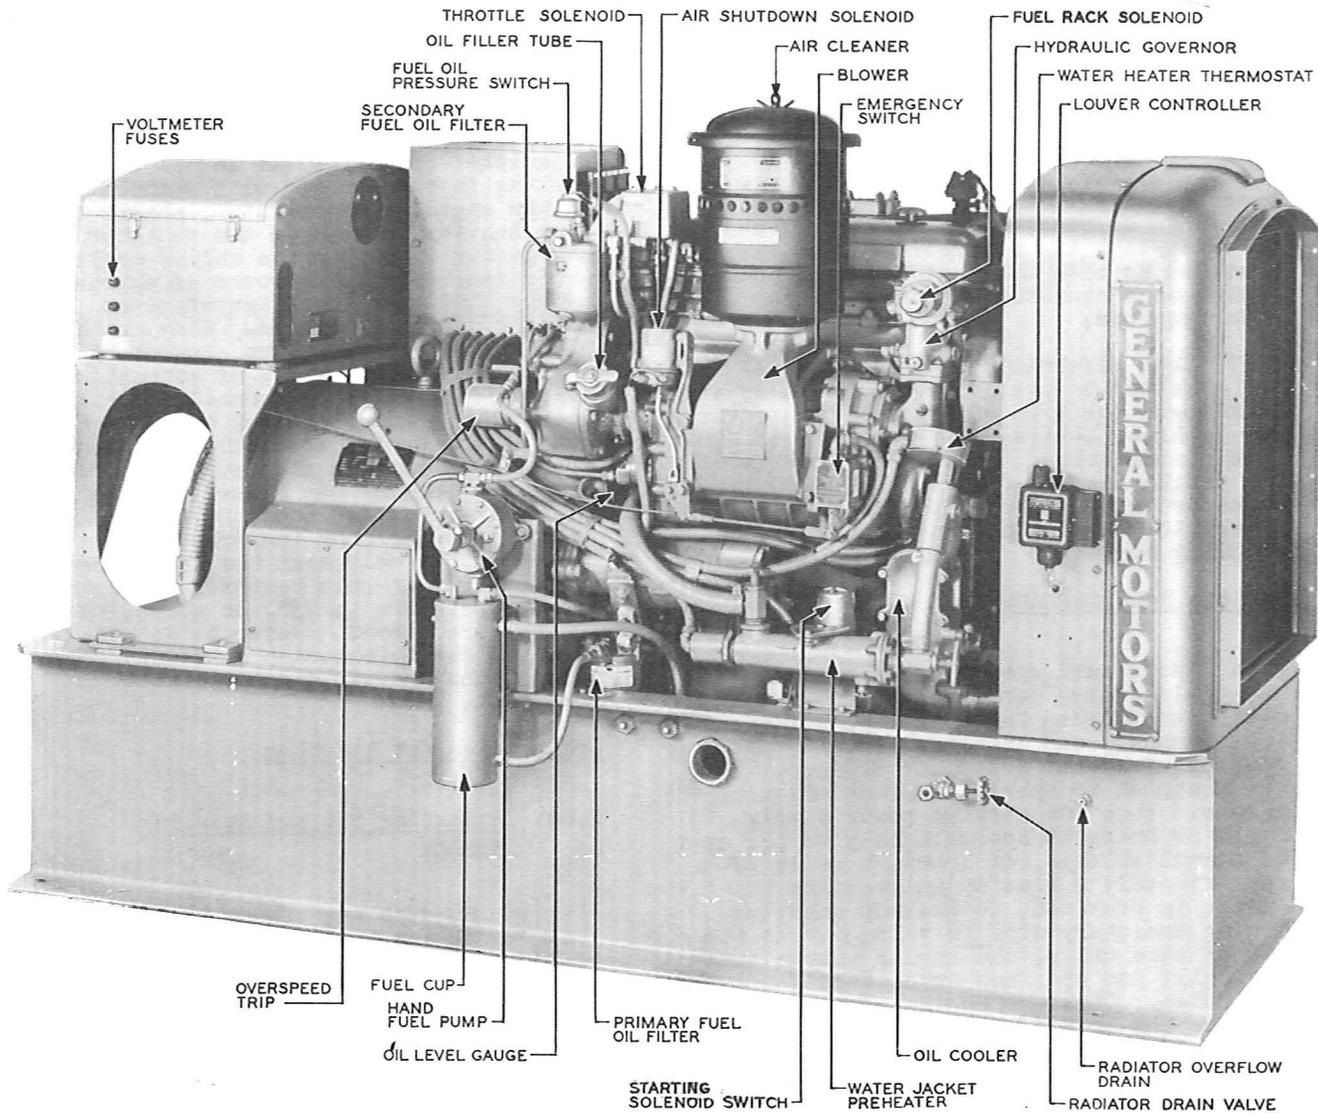
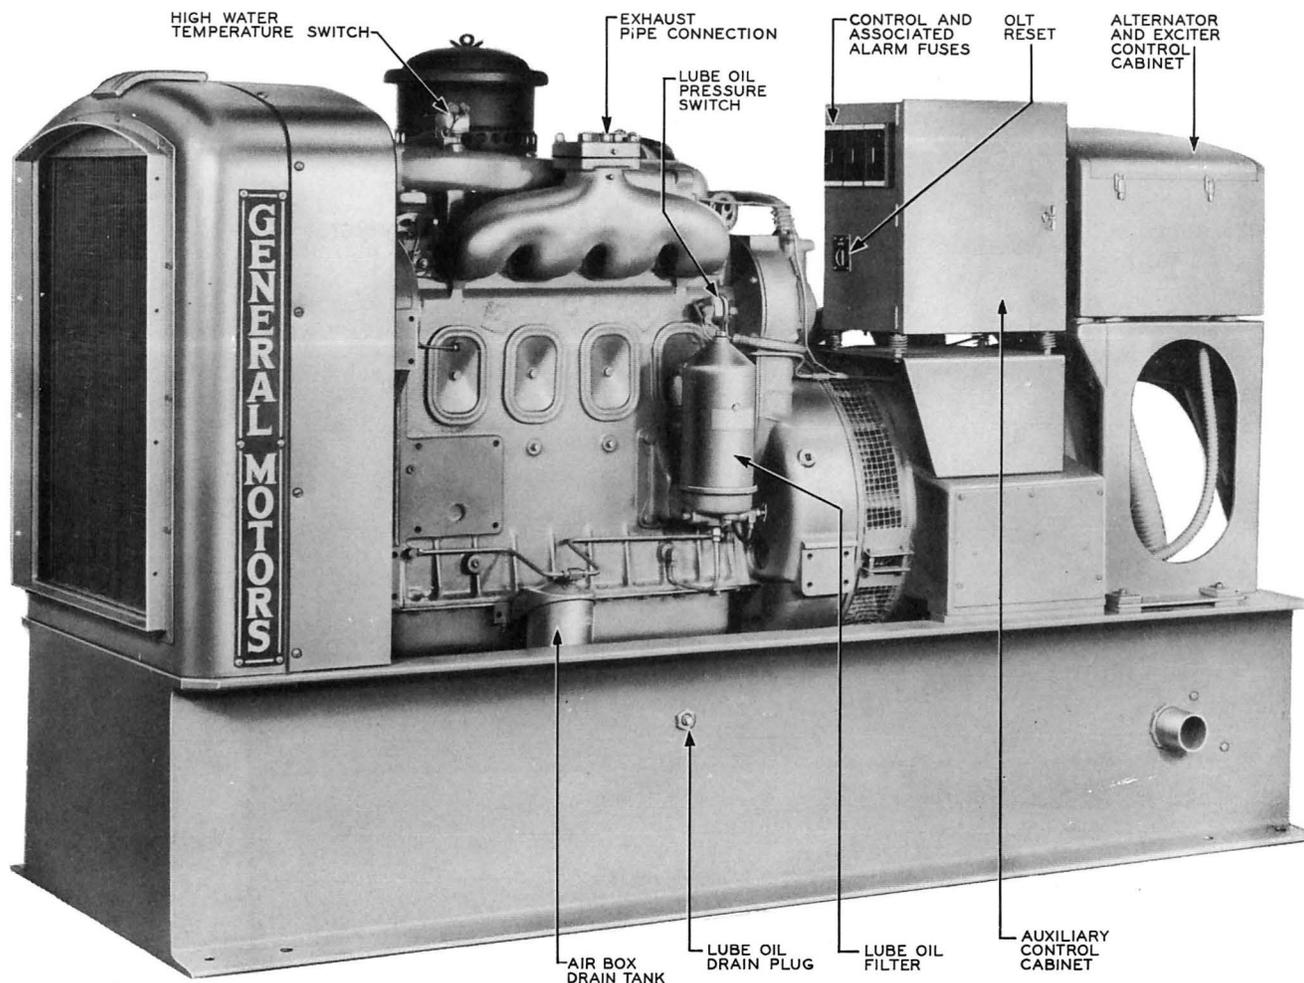
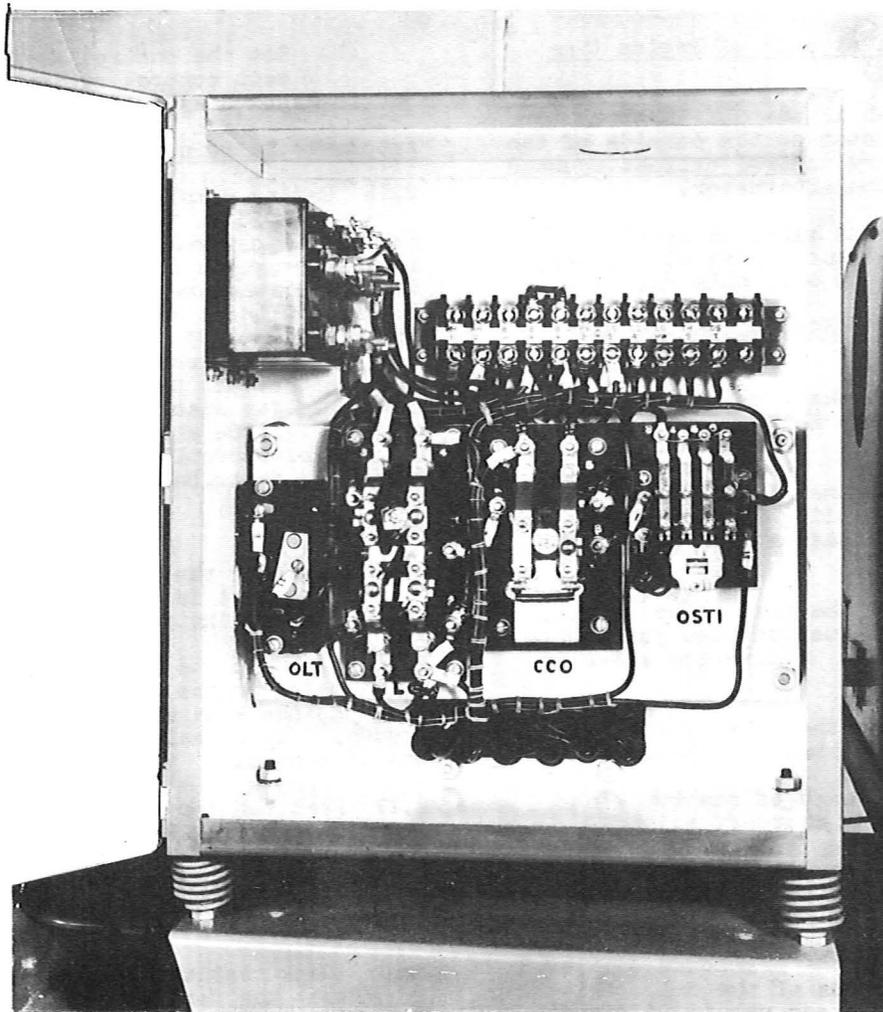

Fig. 1 - Engine-Alternator Set - 40 KW Unit - Blower Side
Fig. 3 - Engine-Alternator Set - 40 KW Unit - Exhaust Side
Fig. 4 - Auxiliary Control Cabinet on Engine Set - Interior View
- (c) Operate the hand fuel pump (Fig.1) until the fuel cup is full.
- (a) Check the oil level in the crank-case by means of the oil level gauge, (see Fig. 1) which is located on the blower side of the set, and add oil if required to bring it up to the FULL mark on the gauge.
(b) On Exhaust Side of Engine (See Fig. 3):
(c) On Blower Side of Engine (See Fig. 1):
3. Open the fuel valve in the fuel suction line just above the floor. (Valve not shown in Fig. 1.)
2.17 Feel the top of the lubricating oil filter (see Fig. 3) occasionally to see that it is warm. If cold, it indicates the filter is clogged or the lubricating oil filter valve, if furnished, is closed. (See 2.12(b)2). Correct as necessary.
2.20 The air box is provided with drains-piped to a container located near the subbase on the exhaust side of the set. (See Fig. 3). This container has a drain valve at the bottom which should be opened at each visit to the office. Its capacity is such that it will suffice for approximately 100 hours of operation before draining is required.
2.23 To stop the set in an emergency, if near the engine, pull the PULL TO STOP-EMERGENCY ONLY shutdown knob, located just below the meters at the alternator end of the set. Pulling this knob trips the engine air shutdown valve (see Fig. 1) and shuts off the air supply to the cylinders, causing the engine to stop. Pulling this knob also opens the EMERG. SW., which in turn opens the engine starting circuit and prevents the set from cranking.
2.25 If the set was stopped as outlined in 2.23, the EMERG. SW. must be reset by pushing the emergency switch lever towards the radiator (see Fig. 1), and the air shutdown valve reset (or opened) by pulling down on the solenoid shaft linkage.
(a) In case the engine set becomes hard to turn over, due perhaps to such troubles as seized engine bearings, pistons, etc., the starting motor will become overloaded, due to the starting motor inrush current continuing. If this excessive current continues for 3 to 5 seconds, the heater of the starting motor overload timer OLT in the auxiliary control cabinet on the engine (see Fig. 4) will have been energized long enough to operate the timer contact. This opens the circuit to the main control relay MC, located in the main control cabinet, causing its release, and the engine cranking is stopped.
(b) Whenever the starting motor overload timer OLT operates, the engine cannot again be cranked by means of the starting motor until the reset button on the OLT timer (see Fig. 3) is operated manually.
(a) Should the engine reach a speed between 1380 and 1500 rpm, contacts 1 of the overspeed trip (see Fig. 1), which is a centrifugal device, will close, causing the overspeed trip relay OST1, located in the auxiliary control cabinet on the engine (see Fig. 4), to operate. Its operation closes one set of its contacts to apply battery to the air shutdown solenoid ASD, (see Fig. 1), causing it to operate to cut off the air supply to the cylinders. A second set of contacts on the OST1 relay also close, applying battery over the OST lead to the main control cabinet to disable the starting control circuit and to set up an overspeed trip alarm condition in the main control cabinet by which the attendant at the attended office will be notified that a trouble exists and that the set has been shut down.
(b) As soon as the air shutdown valve is closed, the engine speed drops. When it has fallen to about 1350 rpm, contacts 1 of the overspeed trip, which closed as described in (a) on the higher speed, will open and the OST1 relay will be released, and the air shut down solenoid ASD deenergized. While the speed is still continuing to fall, the cranking cut-out relay CCO in the auxiliary control cabinet on the engine (see Fig. 4) will also release, but the engine cannot now be started. This condition maintains because, by the procedure in (a), the air shutdown valve was closed, and must be manually reset before the engine can again be started. Also, the cranking circuit was disabled making starting impossible under these conditions.
Note: To reset the air shutdown valve requires manually operating the solenoid shaft linkage at the air damper solenoid on the engine (see Fig. 1) by pulling the linkage down. The overspeed trip on the engine does not require manual resetting as it will reset automatically, but the overspeed trip circuit in the main control cabinet must be reset manually to restore the circuit.
(a) Should the lubricating oil pressure drop to 10 pounds per square inch or the engine cooling liquid temperature rise to $200 \pm 5F$, the set is automatically stopped. When the engine fuel oil is 30 pounds per square inch or above, the fuel oil pressure switch FPS (see Fig. 1) contacts are closed. If the lubricating oil pressure drops to about 10 pounds per square inch, the lubricating oil pressure switch LOPS (see Fig. 3) contacts close, or if the temperature of the engine cooling liquid reaches $200 \pm 5F$, the high water temperature switch (HWTS) (see Fig. 3) contacts close, the closing of either one of which will cause the low oil pressure (LOP) relay to operate. When this low oil pressure relay operates, one set of its contacts closes and furnishes battery over the LOHW lead to the alarm circuit in the main control cabinet. The other set of its contacts operates the air shutdown solenoid. When the engine fuel oil pressure is below 30 pounds per square inch as the engine is coming to rest, the fuel oil pressure switch (FPS) contacts open, which releases the low oil pressure relay LOP. See 2.32.
(a) Three control fuses and associated alarm fuses are mounted on the side of the auxiliary control cabinet on the engine set (see Fig. 3).
These control fuses supply battery for operating the overspeed trip circuit on the engine, the low oil pressure and high water temperature circuit also on the engine, as well as the d-c control circuits contained in the main control cabinet. (see A301.552). Reading from left to right in Fig. 3, these fuses are designated OST, LOHW and CONT SUPPLY. In case one of these control fuses should blow, its associated alarm type fuse, which is bridged across it, also blows. When blown, the alarm fuse makes contact to supply battery over the OST lead to the main control cabinet to disable the starting control circuit and to set up in the main control cabinet an overspeed trip alarm condition by which the attendant at the attended office will be notified that a trouble exists and that the set has been shut down.
2.32 Whenever an engine set is automatically shut down because of any one of the troubles covered above in 2.29 to 2.31 inclusive, the air shutdown valve is automatically closed because the engine trouble control has actuated the air shutdown solenoid (see Fig. 1) to which this air valve is connected by a linkage. Once this air shutdown valve has thus been closed, it must be reset (opened) by hand, otherwise the air supply to the cylinders will remain cut off which will make it impossible to restart the set. As explained above in each case, an alarm is transmitted to an attended office to notify the attendant there that the set has shut down, necessitating a visit to the unattended office to determine the exact trouble. The attendant should therefore remember to reset the air shutdown valve by pulling the linkage at the solenoid down before attempting to restart the engine.